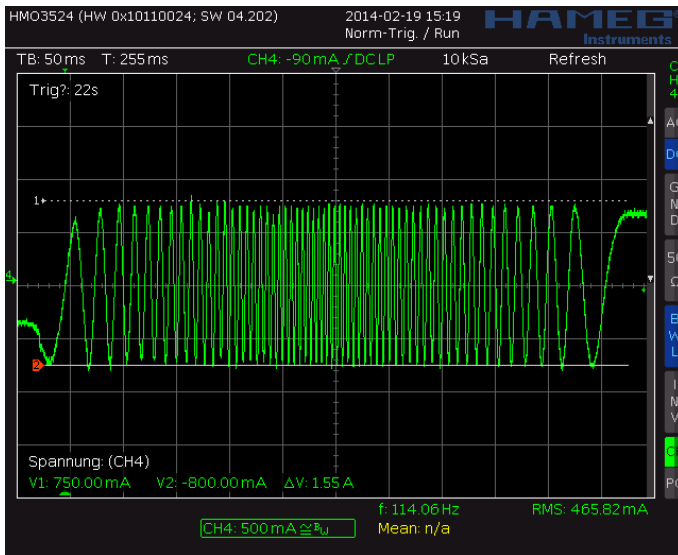
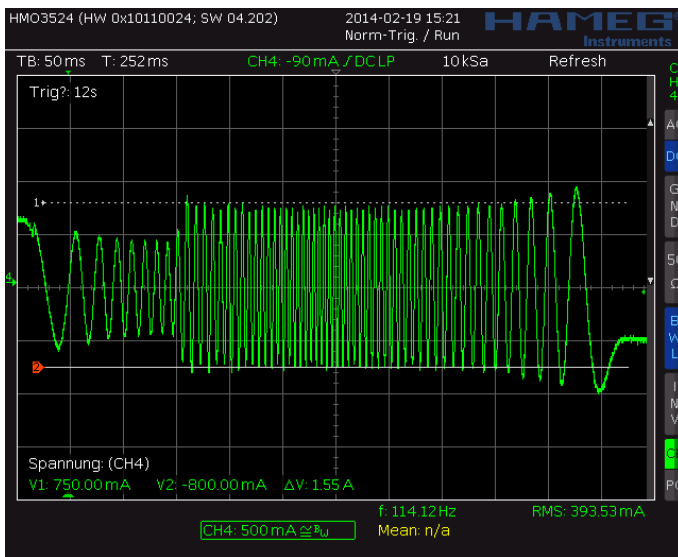
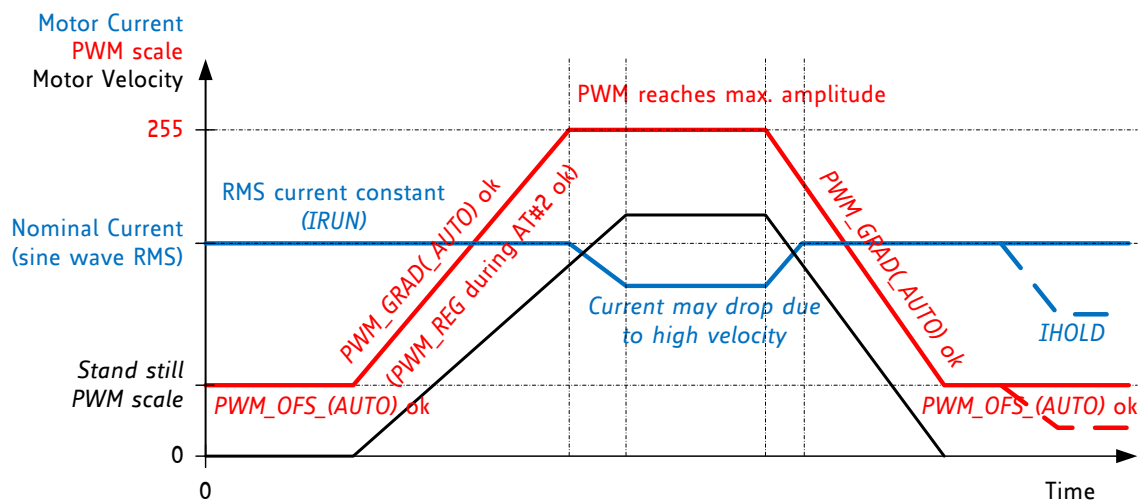

Figure 6.3 Scope shot: good setting for PWM\_REG
Figure 6.4 Scope shot: too small setting for PWM\_REG during AT#2
Figure 6.5 Successfully determined PWM\_GRAD(AUTO) and PWM\_OFs(AUTO)
In StealthChop voltage PWM mode, the autoscaling function ( $pwm\_autoscale = 1$ ,  $pwm\_autograd = 1$ ) regulates the motor current to the desired current setting. Automatic scaling is used as part of the automatic tuning process (AT), and for subsequent tracking of changes within the motor parameters. The driver measures the motor current during the chopper on time and uses a proportional regulator to regulate  $PWM\_SCALE\_AUTO$  in order match the motor current to the target current.  $PWM\_REG$  is the proportionality coefficient for this regulator. Basically, the proportionality coefficient should be as small as possible in order to get a stable and soft regulation behavior, but it must be large enough to allow the driver to quickly react to changes caused by variation of the motor target current (e.g. change of VREF). During initial tuning step AT#2,  $PWM\_REG$  also compensates for the change of motor velocity. Therefore, a high acceleration during AT#2 will require a higher setting of  $PWM\_REG$ . With careful selection of homing velocity and acceleration, a minimum setting of the regulation gradient often is sufficient ( $PWM\_REG=1$ ).  $PWM\_REG$  setting should be optimized for the fastest required acceleration and deceleration ramp (compare Figure 6.3 and Figure 6.4). The quality of the setting  $PWM\_REG$  in phase AT#2 and the finished automatic tuning procedure (or non-automatic settings for  $PWM\_OFS$  and  $PWM\_GRAD$ ) can be examined when monitoring motor current during an acceleration phase Figure 6.5.